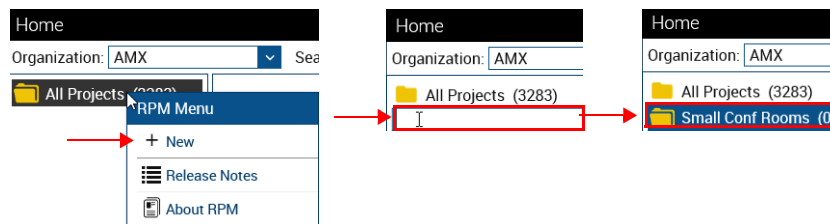

FIG. 47 Folders View context menu
1. Right-click on **All Projects** in the Folder view and select **New** from the context menu. This creates an empty folder with a cursor prompt (FIG. 47):
2. Type a name and press *Enter* to create the folder. The example in FIG. 47 shows that a new folder named "Small Conf Rooms" has been added. The number following the folder name indicates the number of Projects currently in each folder. Therefore, the new folder indicates zero (0) projects at this point.